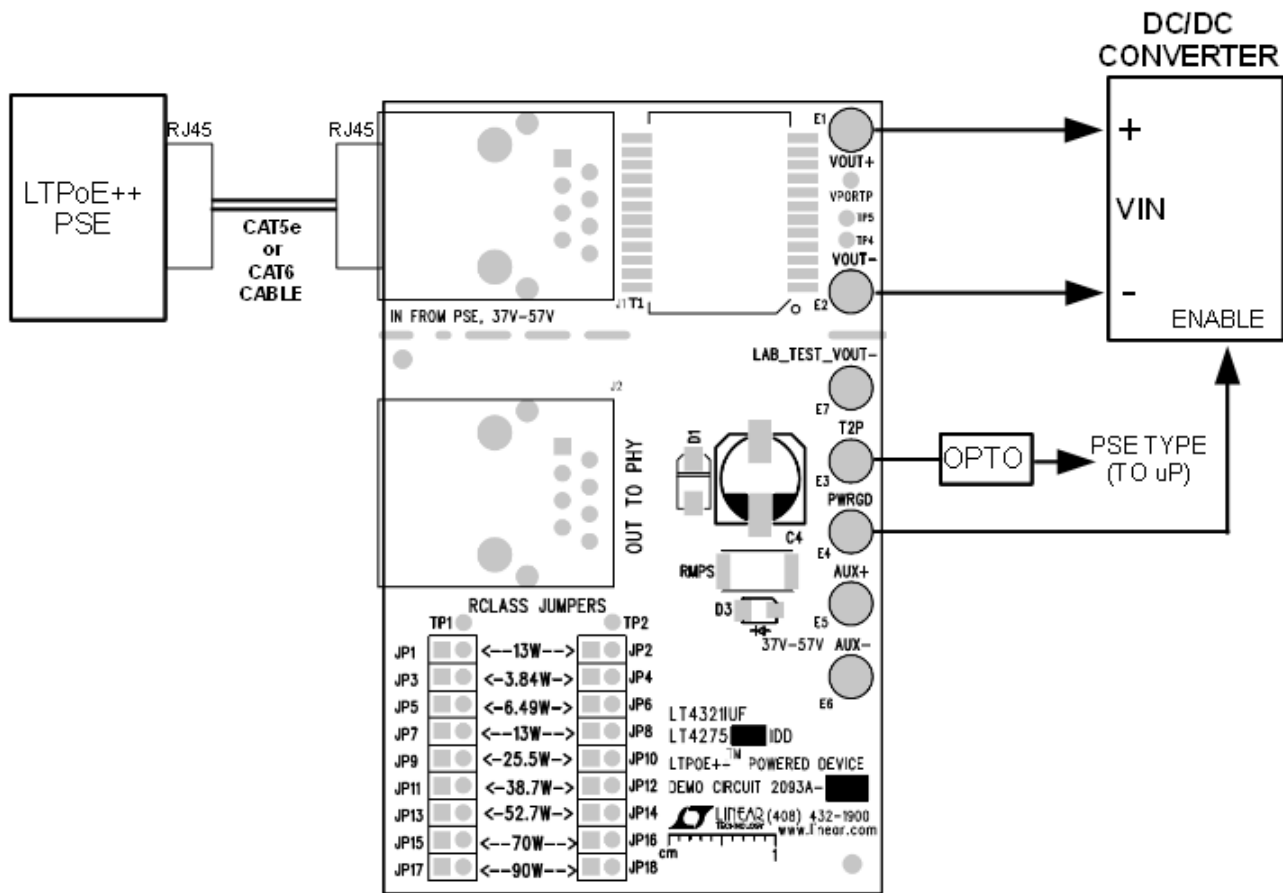
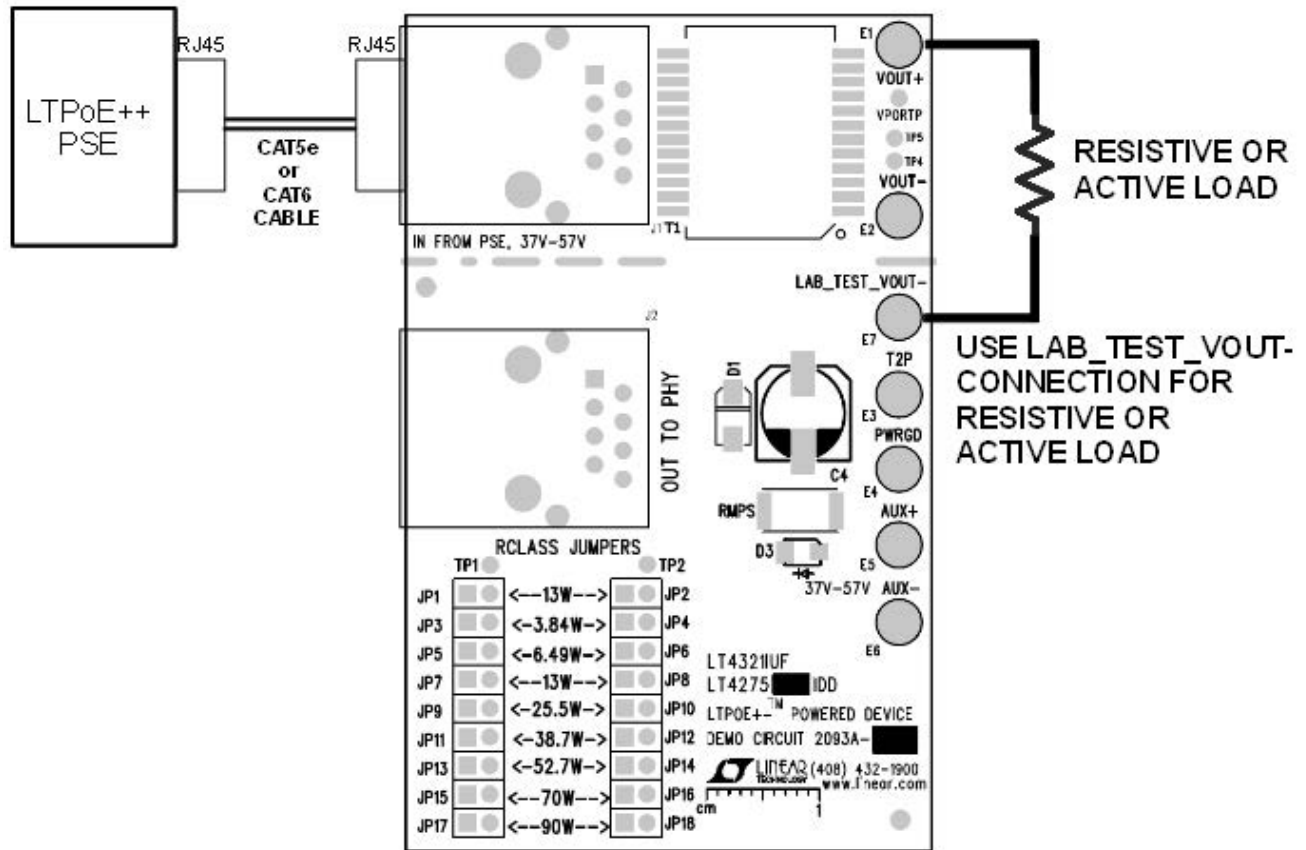

Figure 1. Setup Diagram for the DC2093A-A with a DC-DC Converter, a Microprocessor, and an LTPoE++ PSE
Figure 2. Setup Diagram for DC2093A-A with a Resistive or an Active Load
The LT4275 limits the inrush current to the output bulk capacitor by controlling the output voltage slew rate during turn-on. The slew rate is preprogrammed via a resistor and a capacitor at the LT4275 HSGATE pin on the DC2093A to limit the inrush current to the bulk capacitor on board. If more capacitance is desired at the output, refer to Inrush and Powered On section in the LT4275 data sheet to recalculate the inrush current and ensure it is below the IEEE requirement of approximately 100mA. The inrush current limit will cause startup problems if an attached load draws more than 100mA of current during inrush. Therefore, it is strongly recommended to use the PWRGD indicator on the DC2093A to interface to a load such as a DC/DC converter as shown in Figures 1, 2 and 4.
1. Refer to Figure 1 to evaluate the DC2093A-A with a DC/DC converter. If a resistive or an active load is used to evaluate the DC2093A-A, use the setup diagram as shown in Figure 2.